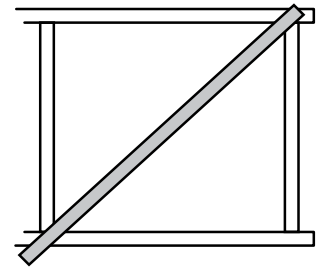

Figure 21
1. Lay the diagonal piece across and mark with a knife (Figure 21).